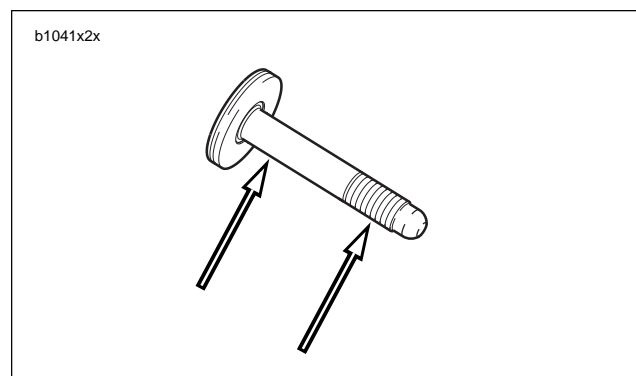

Figure 2-87. Lubrication Points on Front Isolator Bolt
2. See Figure 2-87. Lubricate front isolator bolt with ANTI-SEIZE and loosely install.